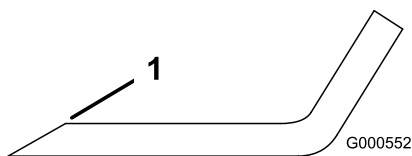

Figure 66
1. Use a file to sharpen the cutting edge at both ends of the blade (Figure 66).
Note: If the blade is not balanced, file some metal off the end of the sail area only (Figure 66).